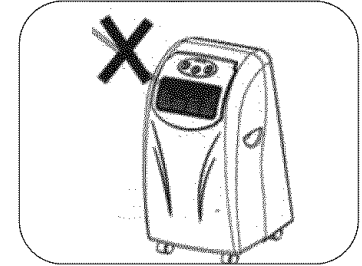

FIG.2
- Do not place objects on the unit or restrict air Inlet / outlet (FIG. 2).